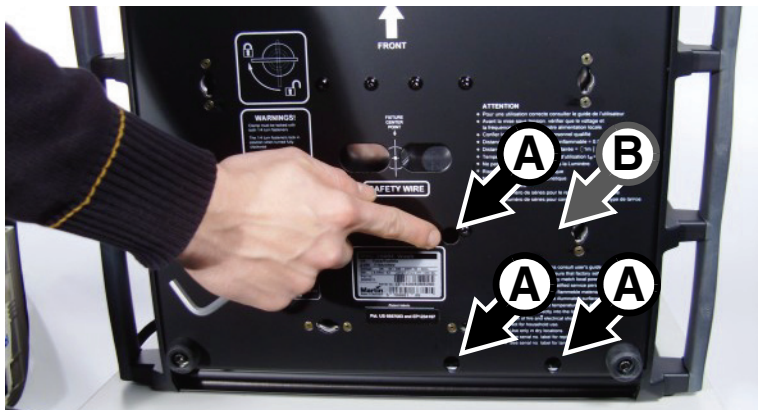

Figure 5
6. See Figure 5. Use a 4 mm Allen key to remove the three ballast mounting screws **A** from their holes (arrowed) around the serial number label in the base. In older fixtures, you must also remove a fourth ballast mounting screw **B**. Throw these screws away because three new ballast mounting screws are provided in the Upgrade Kit. When you install the new ballast, you will insert the new mounting screws in the holes at **A**.
38. Check that the new ballast is correctly positioned in the base. Lay the fixture on its side and fasten the ballast with the three Allen screws (P/N 08111201, see “U” in Table 1) supplied in the Upgrade Kit, passing these screws through the base in the holes shown at **A** in Figure 5 on page 6.